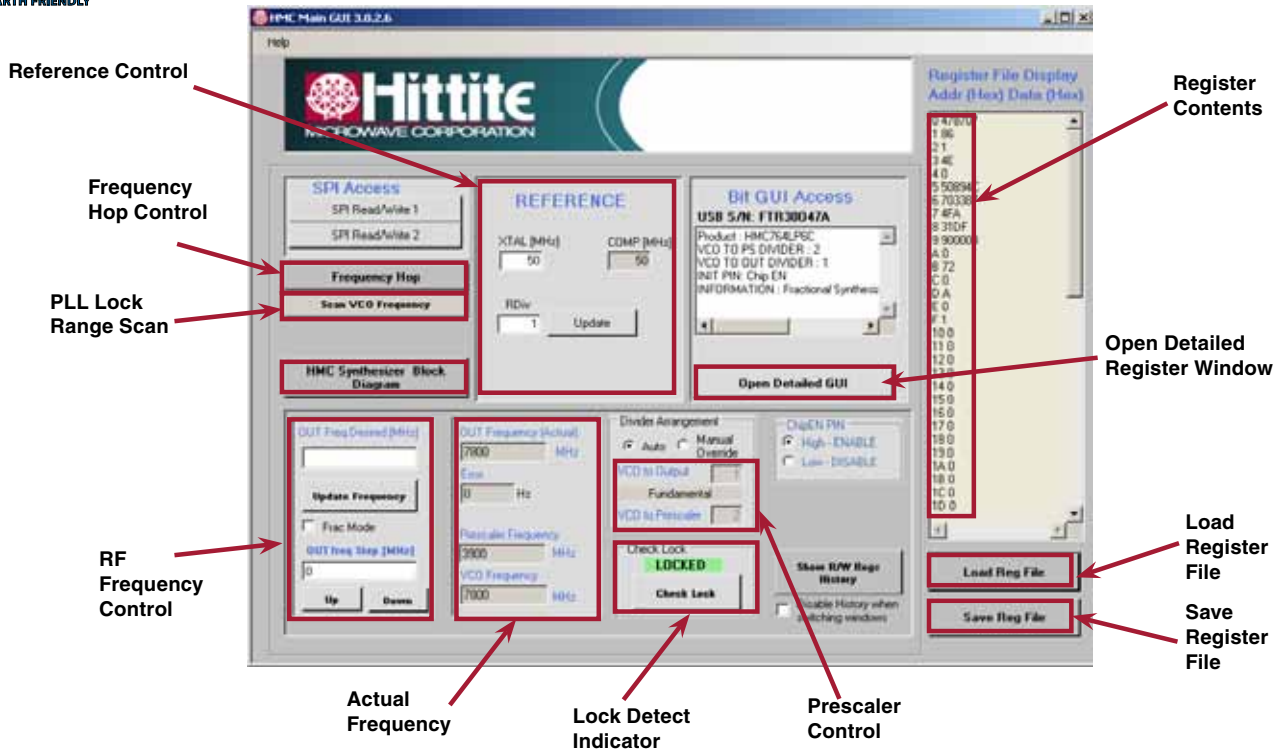
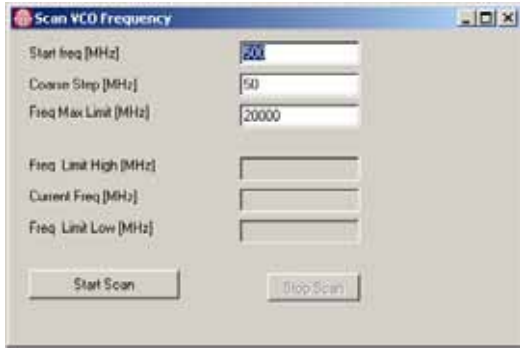
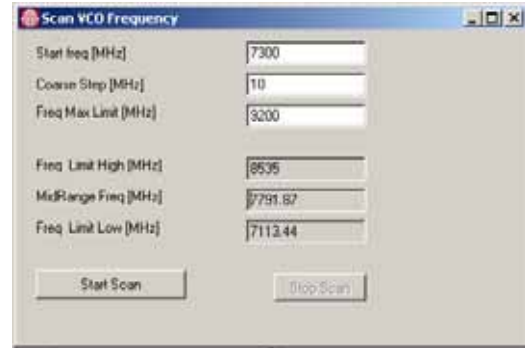

Figure 11. Main Control Window after Loading Register File
Figure 14. Default “Scan VCO Frequency” Window
Figure 15. Scan Setting and Scan Result on HMC764LP6CE
Step 7. Click “Load Reg File” button to load the register contents of the part (Figure 11).
Step 10. Scan the VCO frequency to find the PLL with Integrated VCO locked range (“Frac Mode” box must be checked). Click “Scan VCO Frequency” button in the main control panel (Figure 11). A new small window pops out as shown in Figure 14. Set “Start Freq”, “Coarse Step” and “Freq Max Limit”, click “Start Scan” button (refer to the specified Min/Max frequencies of the individual product data sheet, set “Start Freq” to Min frequency and set “Freq Max Limit” to 1 GHz above Max frequency). When the scan is finished, the PLL with Integrated VCO locked range will be shown in the window. As an example, Figure 15 shows the scan setting and scan result on HMC764LP6CE. Remember that the frequency lock range is greater than the specified frequency range and the phase noise or spurs will degrade outside of this specified window.
Click “Frequency Hop” button in the main control panel (Figure 11). A new small window pops out as shown in Figure 16. Set “Frequency #1”, “Frequency #2” and “Dwell Time” in this window. Then click “Start” button. The RF signal will switch between “Frequency #1” and “Frequency #2” in the defined “Dwell Time”. Figure 17 shows a typical example of the “Frequency Hop” setting on the HMC764LP6CE. This function usually is used to find the frequency settling time of the PLL with Integrated VCO.